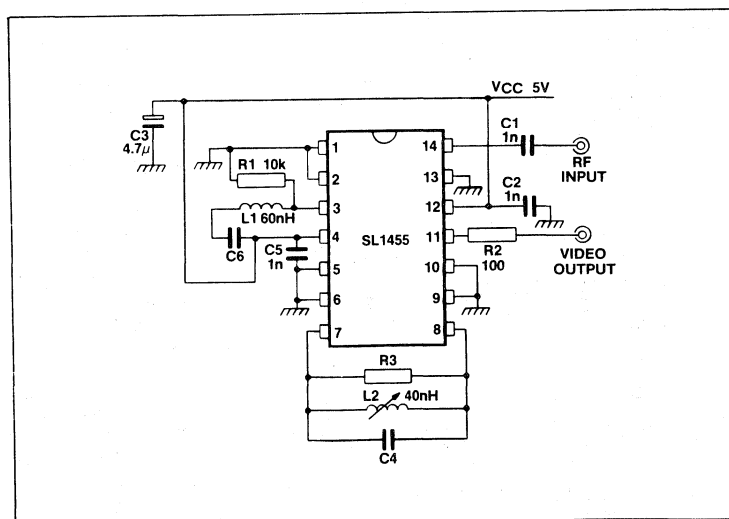

Fig.3 Typical application, 612MHz threshold extended demodulator
- All parameters from Noise threshold to Video bandwidth are determined by the application circuit. These results were gained with the circuit in Fig.3.